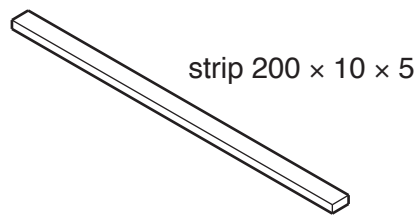

Fig. 12
- (e) Fig. 12 shows one of the strips that will be joined to the base of the storage unit using acrylic cement.